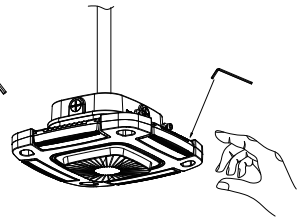

Figure 1-8
8. Manually rotate the surrounding lighting modules to adjust the angle. Lock screws on the lighting modules, Installation completed. Figure 1-8